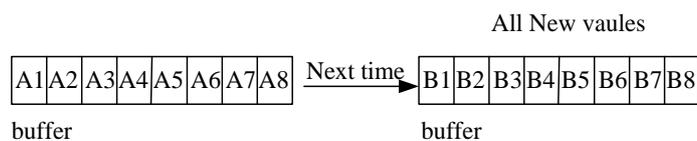

Figure 3-23
1. Assuming the reading average time is set to = 8, the average method is set to FIXED, readings sampling is that the device clears all of the old samples (A1 ~ A8) in the buffer and saves the new samples (B1 ~ B8), then average them in repetition as Figure 3-23 shows.